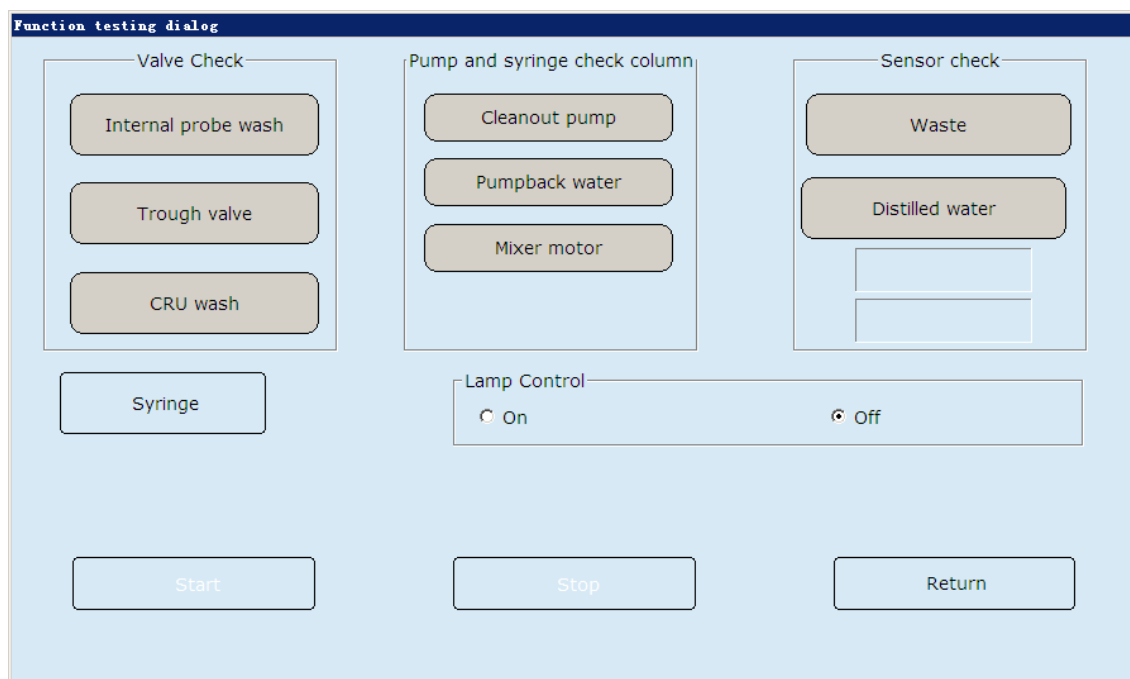

Figure 6.1
- 7) Regularly check if the needle is clogged. Method:Click "Moving Parts Detection" in the "Instrument Maintenance" menu (Figure 6.1)
16) The instrument's 3 electronic valves should be regularly checked in the "Moving Parts Inspection" menu in the "Maintenance" menu. Select "Needle Valve", "Reagent Valve", "Water Valve" and then "Test" in Figure 6.1 respectively. If you hear a "pop" sound, the electronic valve is good and contact us if you can not hear the sound.
17) Select the "Mixing System",click test in Figure 6.1 to check if the paddle is rotating. If the stirring blade can not rotate,should contact us.